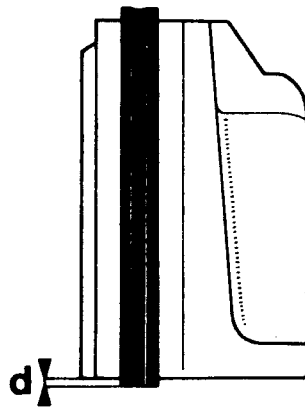

Fig.1.50 No.1 main bearing cap seal projection (D)
- 8 If the two side seals into position in the front main bearing cap (photo). The seal groove must be to the outside and projecting by approximately 0.008 inch (0.2032 mm) as shown in Fig.1.50.